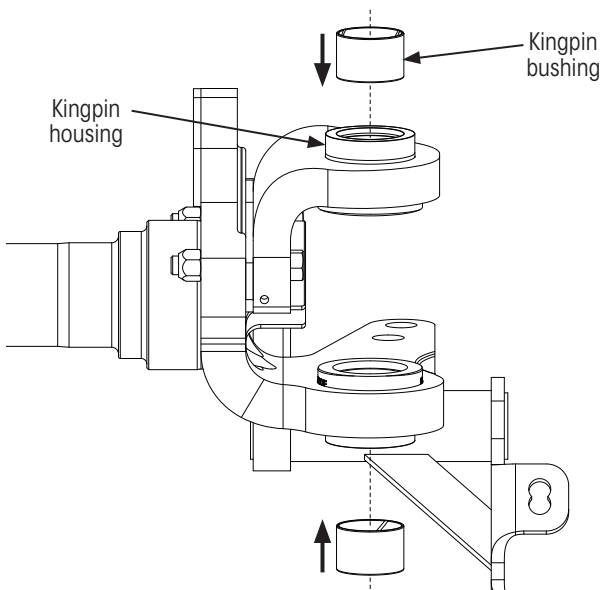

Figure 26: Removing kingpin bushing and seal
5. **Correctly position** new kingpin bushings, as shown in Figure 26.